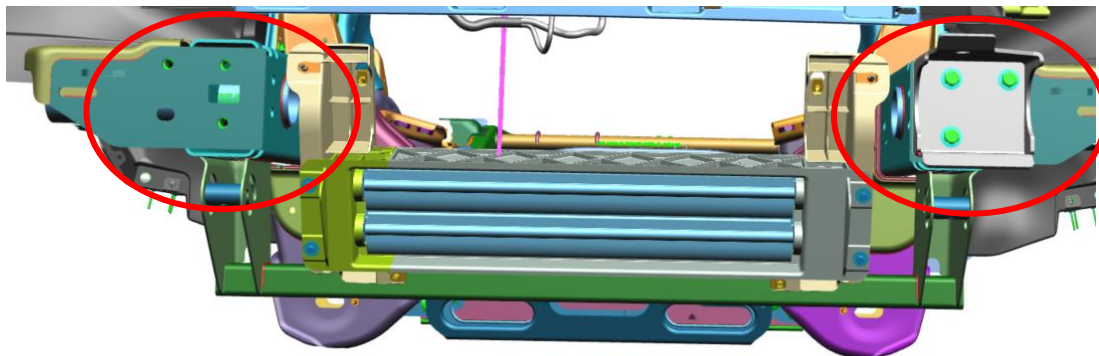

Figure 6 – Driver side Attached / Passenger side Un-Attached
- b. Using [6] M10 bolts (11588738), loosely install AEV frame brackets to frame horn of vehicle on each side - Fig. 6